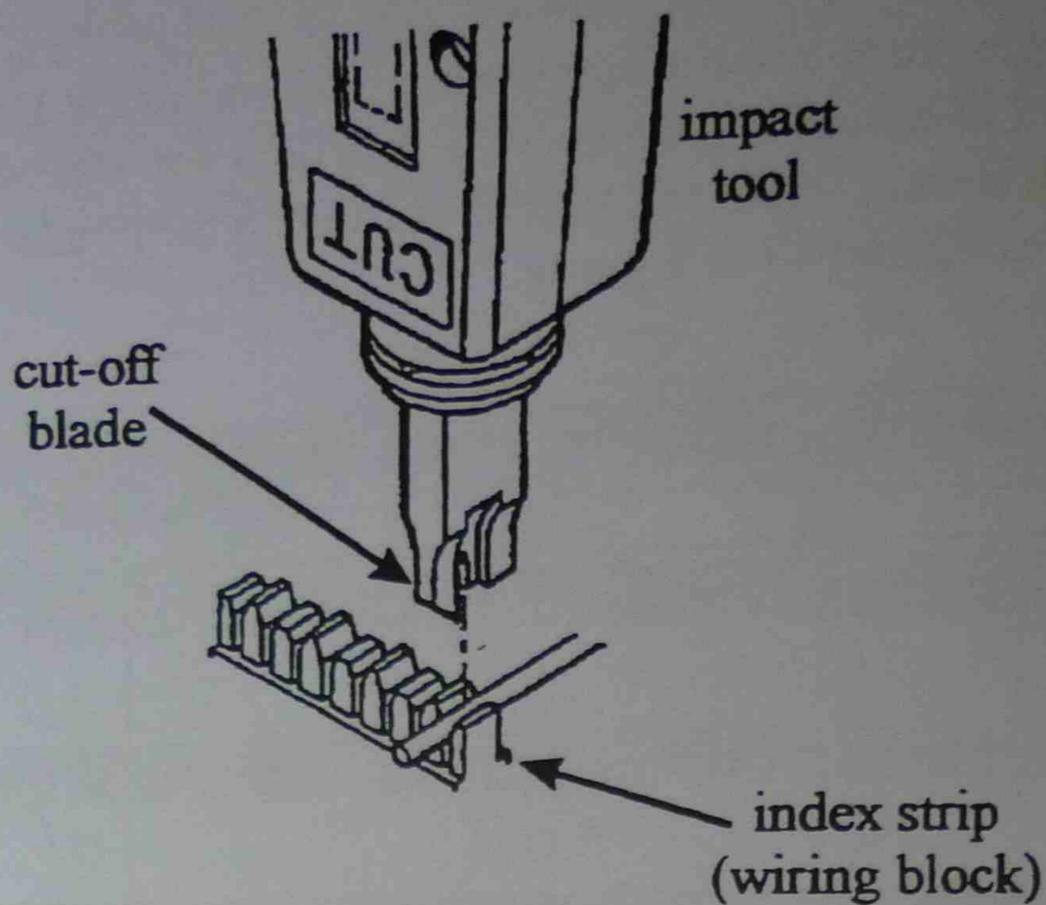

Figure 44 Terminating cabling in wiring block
13. Seat the conductors and use an impact tool or equivalent. Use Figure 44 as a guide.